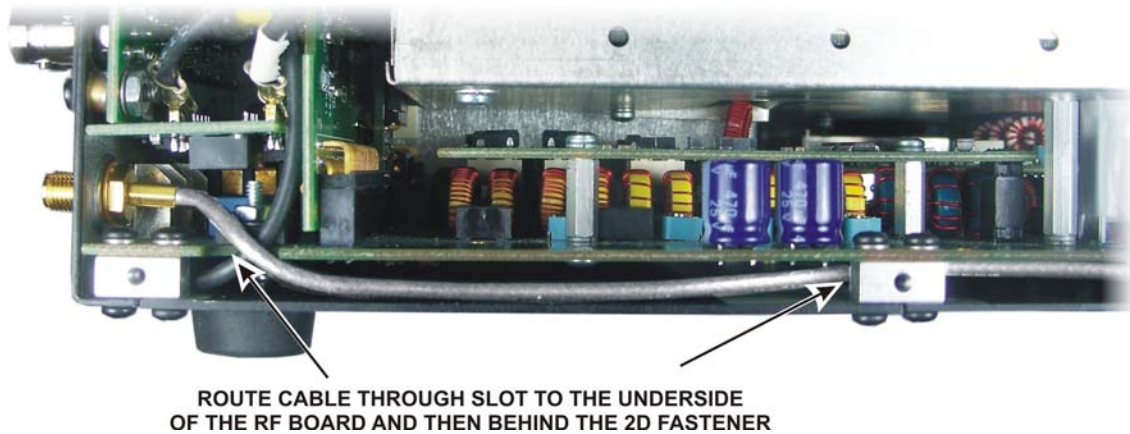

Figure 4. Routing the SMA Cable Under the RF Board.
- ☐ Route the cable under the RF board and toward the front of the K3 as shown in Figure 4. Keep the cable near the edge of the board as shown.